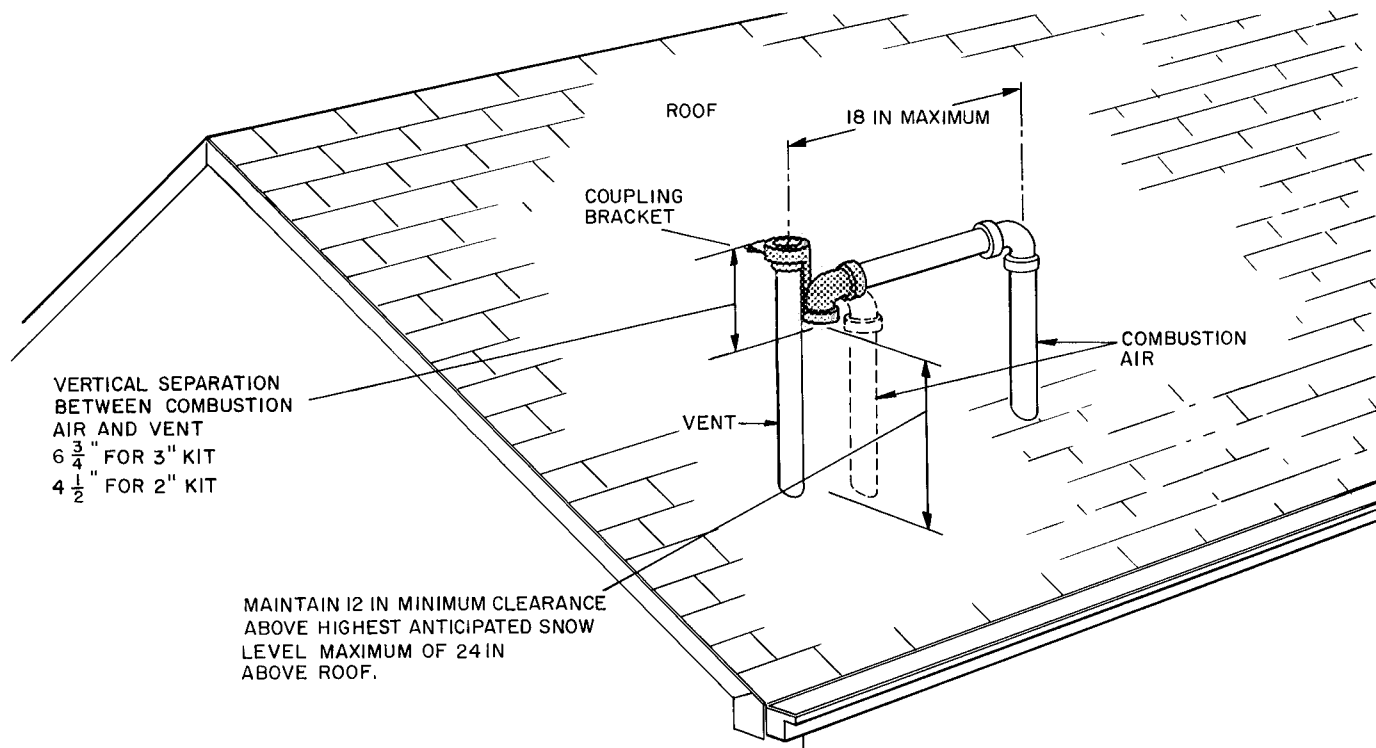

Fig. 2 — Rooftop Vent Terminal Installation
Combustion-Air and Vent Piping — The schedule-40 PVC pipe and fittings must conform to American National Standards Institute (ANSI) standards and American Society for Testing and Materials (ASTM) standards D1785 or D2665. PVC pipe cement and primer must conform to ASTM D2564. See Tables 3 and 4 for pipe sizing and Fig. 2, 3 and 4 for exterior piping arrangements. See High Altitude Pipe Sizing Procedures section for high altitude applications.
Vent Terminal Kit Installation—The combustion-air and vent pipes must terminate outside the structure. The Carrier accessory vent termination kit (required) must be installed as shown in Fig. 2, 3 or 4. Roof termination, shown in Fig. 2, is preferred.
NOTE: The shaded portions of Fig. 2, 3 and 4 are considered part of the vent terminal and are provided in the vent terminal kit. They should not be counted, therefore, in pipe diameter calculations
ROOFTOP VENT TERMINAL INSTALLATION (Fig. 2)
NOTE: The solid-line arrangement in Fig. 2 is the preferred arrangement; the dashed-line arrangement is an option for the combustion-air pipe.
3. Loosely install pipe coupling, provided in kit, on properly cut vent pipe. Position coupling so that bracket will mount as shown in Fig. 2.
5. Install bracket as shown in Fig. 2.
6. For applications using combustion-air pipe option (indicated by dashed lines in Fig. 2), install 180° U-fitting on end of pipe instead of 90° elbow.